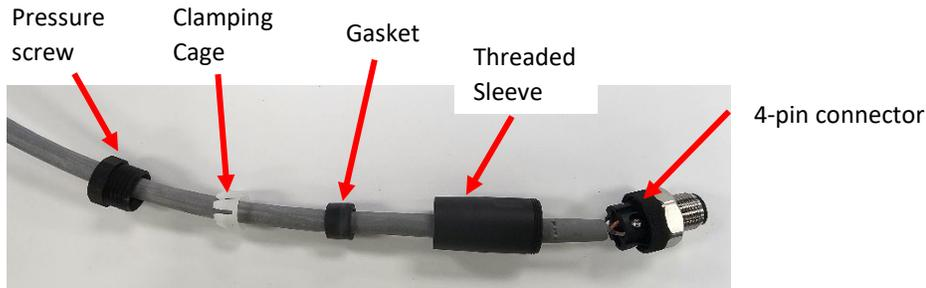

Figure 1
- [1] Obtain the required length of 115-0050-01 ethernet cable and two 125-0422-01 ethernet connectors (Figure 1). Do not slide these onto the cable until step 7, which shows the order in which they should be put on the cable.